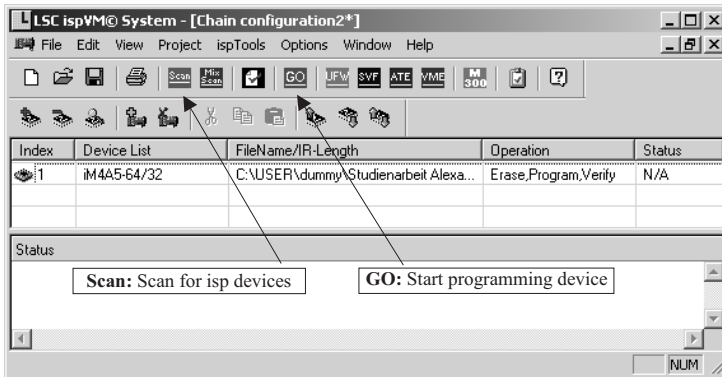

Fig. 29.2.44. ispVM-System
To program a device start the program ispVM (Fig 29.2.44).
- Press the “Scan” button in Fig. 29.2.44. Now all PLDs in the chain of the circuit are scanned and displayed in the right order.
- Start programming with “Go” from the main window (Fig. 29.2.44)